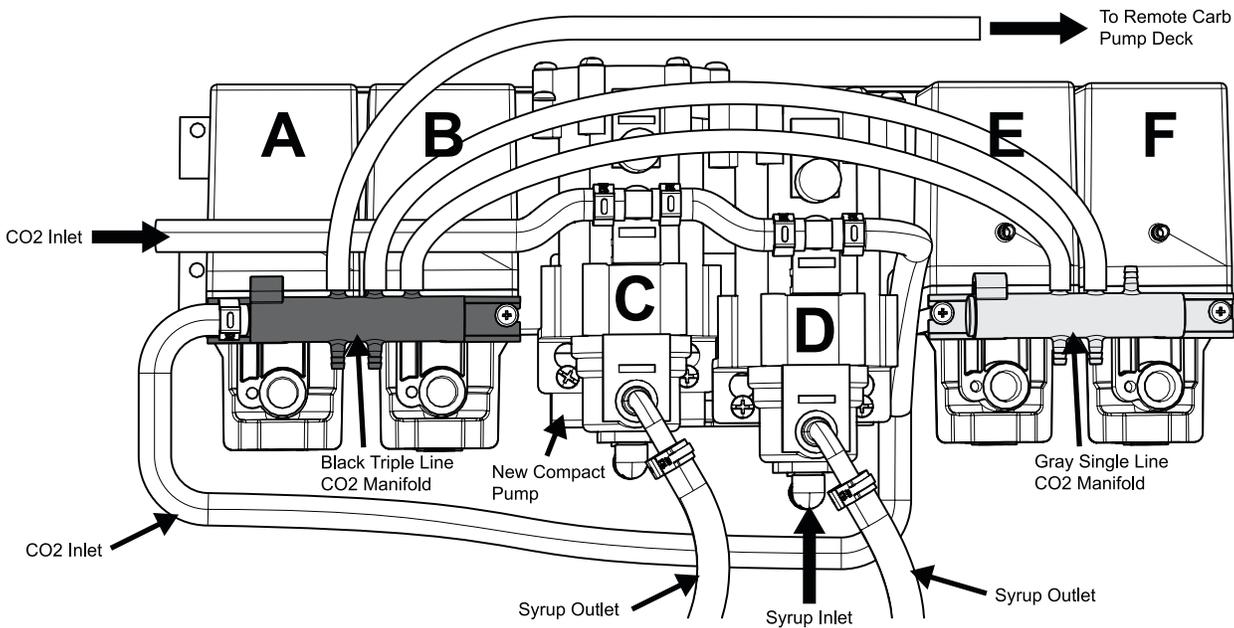

Figure 3
7. Route the appropriate tubing from the open inlet on the black CO₂ manifold on pumps A and B to one of the closed inlets on the gray CO₂ manifold on pumps E and F. (See Figure 3)
12. Connect CO₂ line routed from the CO₂ source to the new pump (C) CO₂ inlet.
14. Route CO₂ line from the CO₂ quick connect inlet on the second pump (D) to the elbow inlet connection on the black CO₂ manifold on pumps A and B.